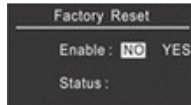

Figure 67
- 1.Access Factory Reset Settings: Navigate to the System Parameter Setting page (Figures 47-50), press the Up key to select "Factory Reset," and confirm with the Confirm key (Figure 67).